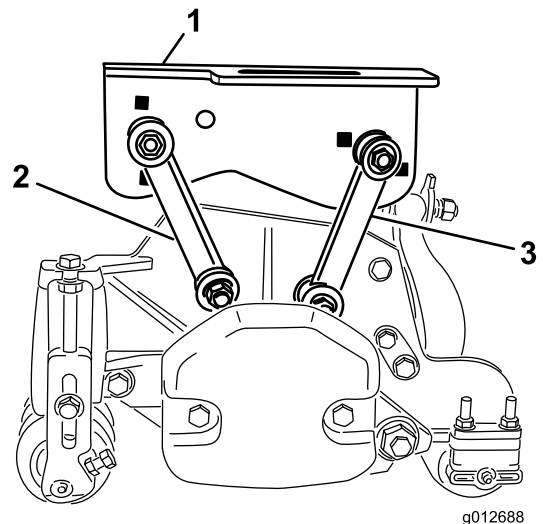

Figure 17
- Secure the front mounting links to the middle carrier frame holes with a bolt (3/8 x 2-1/4 inch), 2 flat washers, and a locknut, as shown in Figure 17. Position a washer on each side of the link when mounting. Torque the fasteners to 42 N·m (31 ft-lb).
- Secure the rear mounting links to the middle carrier frame holes with a bolt (3/8 x 2-1/4 inch), 2 flat washers, and a locknut, as shown in Figure 17. Position a washer on each side of the link when mounting. Torque the fasteners to 42 N·m (31 ft-lb).